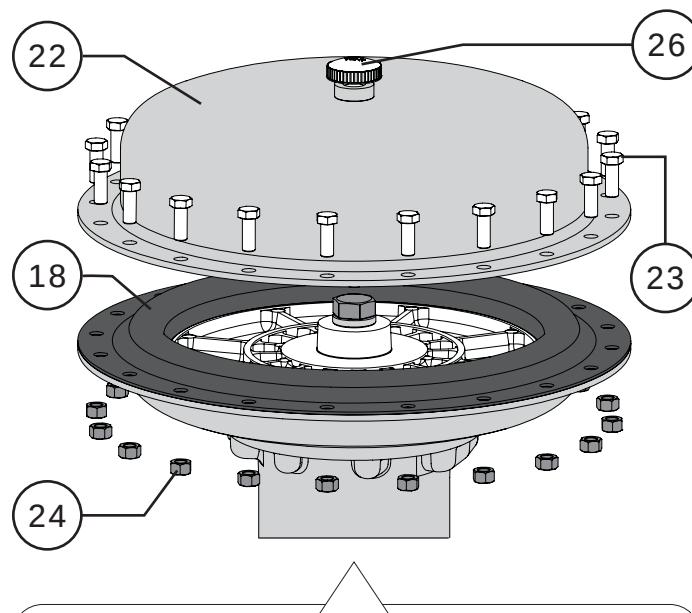

Figure 14 Upper Diaphragm Casing Disassembly Steps 1 & 2
- 1 Remove the casing cap screws (Key 23) and nuts (Key 24), Refer to Figures 14 and 25.